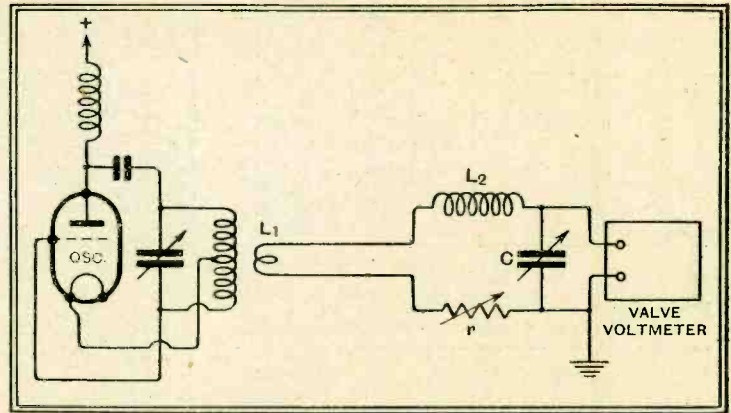

Fig. 2.—Circuit used for measurement of high-frequency resistance. The coil under examination is L_2 .
Fig. 2.—The baseboard is cut away to accommodate the potentiometer R₃, which is mounted on the same level as the waverange switch. Earthing connections on the metal screen are marked E.
A. Wavemeter for checking wavelength. B. Oscillator: circuit as in Fig. 2. C. two-turn pick-up coil. D. Bifilar connecting leads, 1 metre long. E. Ferrocart coil being measured. F. High-frequency resistance box. G. Tuning condenser—very slow motion. H. Valve voltmeter. K. Meters attached to H.
These two coils, together with others of more usual type, were examined for high-frequency resistance in the circuit shown diagrammatically in Fig. 2. The oscillator was set going at the wavelength for which the measurement was required, and to its coil was coupled L_1 , a short-wave coil of two turns. This was joined by a pair of parallel wires one metre long and 25 mm. apart to the tuned circuit proper, consisting of L_2 , the coil under examination, the tuning condenser C , and the interchangeable high-frequency resistors indicated at r . A valve voltmeter was connected across the tuning condenser for reading the voltages developed at resonance. Comparison of the voltages obtained for different values of r enables the equivalent series resistance of the complete tuned circuit to be deduced.